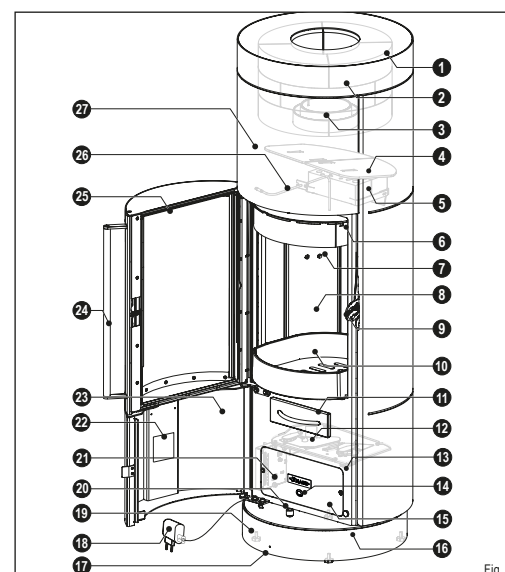

Fig. 1
- The heat retaining stones* (Fig. 1, No. 2) are used to store heat. When the fire has gone out, these stones emit the stored heat to the living space.
- The catalytic combustors can be cleaned with the included brush using the clean-out port (Fig. 1, No. 6).
- The firebricks (Fig. 1, No. 8) are made from vermiculite (fireproof mineral).
- The firebox door (Fig. 1, No. 25) of the stove is self-closing, i.e. the firebox door handle (Fig. 1, No. 24) must be held when opening the firebox door (e.g. when adding fuel).
- When the firebox door handle is released, it will close and catch in the door latch (Fig. 1, No. 9) and automatically seal the firebox.
- The iQ technology (Fig. 1, No. 12-14; 17; 26) automatically controls the optimal combustion air setting and firebox temperature to ensure complete, low-emission combustion.
- The stove consists of a steel body (Fig. 1, No. 27) and depending on the model with steel, ceramic or soapstone cladding to increase thermal storage.
- The stove can be levelled with the adjusting screws (Fig. 1, No. 19) to compensate for uneven installation sites.
- The ash drawer (Fig. 1, No. 11) collects ashes and must be emptied regularly. (see chapter "7.3.3 Cleaning the ash drawer and fire grate")
- The button (Fig. 1, No. 20) on the rotating console is used to lock and unlock the stove (Bild 1, No. 16). (see chapter "6.3 Operating the button rotating console")
- The On/Off switch (Fig. 1, Pos. 14) is used to switch the controller on and off.
- The type label (Fig. 1, No. 22) is located on the inside of the service door.
- The mains plug and the USB-C cable (Fig. 1, No. 18) connect the iQ technology to the mains.